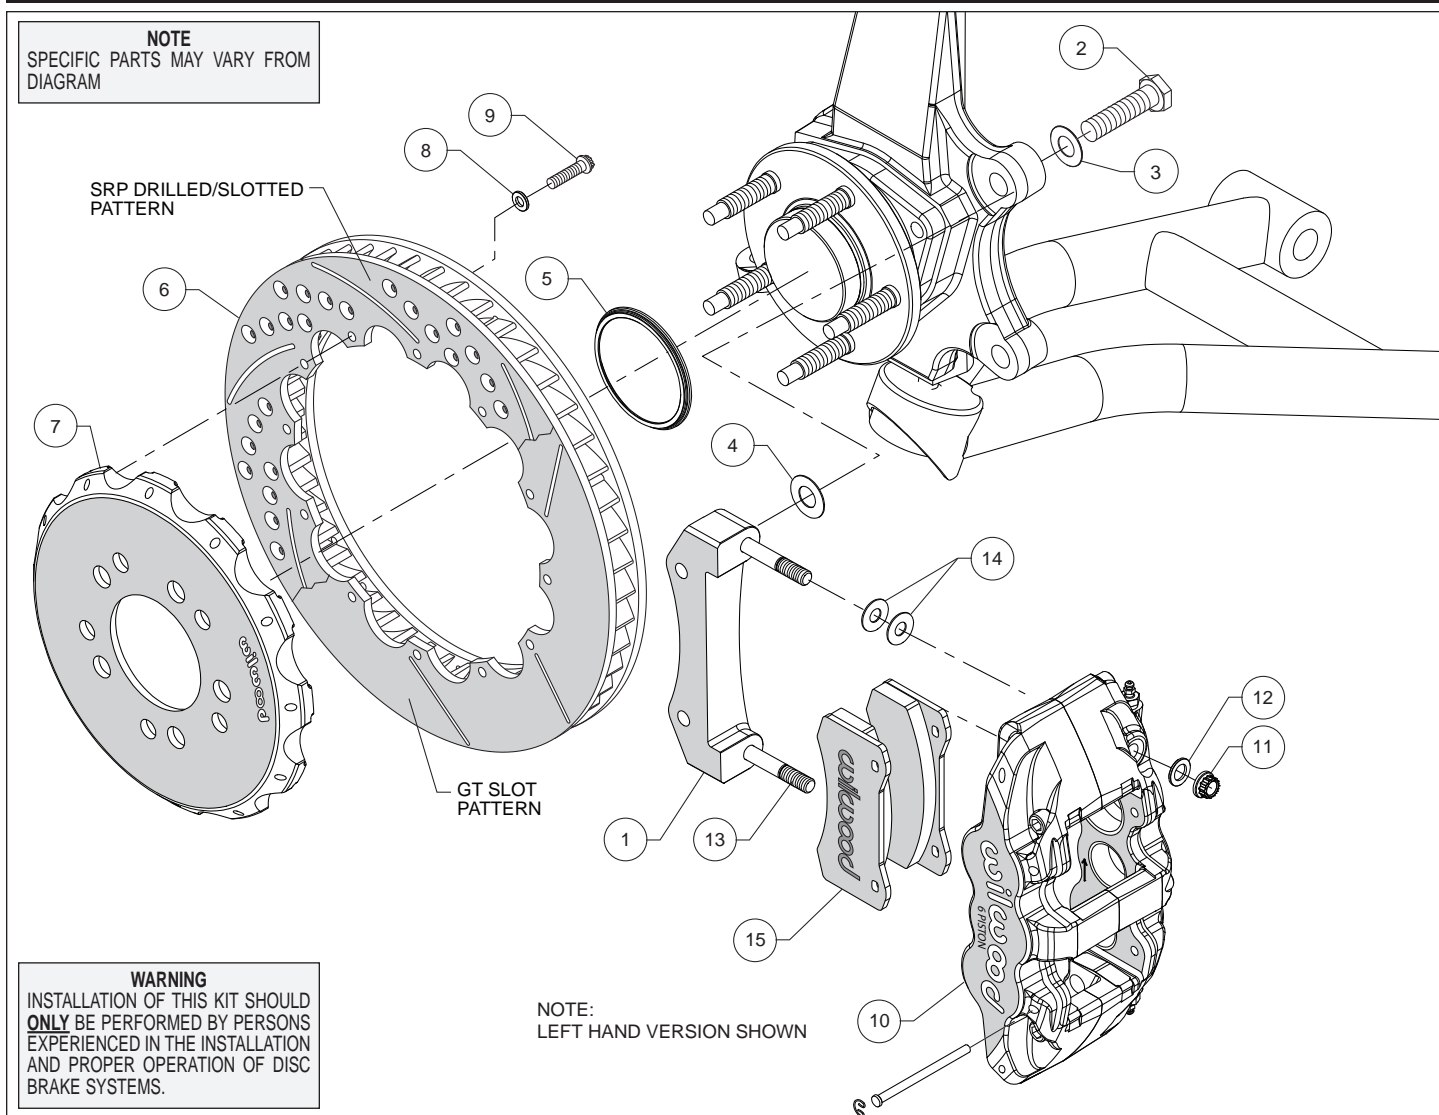
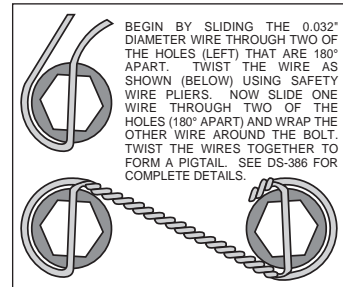

Figure 1. Typical Installation Configuration
Figure 3. Safety Wire Diagram
Assembly Instructions (numbers in parenthesis refer to the parts list and Figure 1 on the preceding pages):
- The caliper mount bracket (1) should initially be installed with clean, dry threads on the mounting bolts. Orient the bracket as shown in Figure 1, and install using bolts (2) and washers (3). Initially place one .029 thick shim (4) on each bolt between the bracket and upright, Figure 1. Temporarily tighten the mounting bolts. **NOTE:** *The bracket must fit squarely against the mount bosses on the upright.* Inspect for interference from casting irregularities, machining ridges, burrs, etc. Later, after the caliper alignment has been checked, the mount bolts will be secured using red *Loctite*[®] 271.
- Orient the rotor (6) and the hat (7) as shown in Figure 1 and Photo 1. Attach rotor to hat using bolts (9) and washers (8). Using an alternating sequence, apply red *Loctite*[®] 271 to the threads, and torque to 155 **in-lbs**. For an added measure of security, the bolts may be safety wired using standard 0.032 inch diameter stainless steel safety wire as shown in Figure 3. Please refer to Wilwood's data sheet DS-386 for complete
- NOTE:** *This kit contains distinct right and left hand calipers that must be mounted in a specific direction, as described below.* Lubricate the caliper mounting studs (13) with lightweight oil. Initially place two .035" thick shims (14) on each stud as shown in Figure 1 and Photo 3. Mount the caliper (10) onto the bracket (1) using lock nuts (11) and washers (12), Figure 1. Ensure that the caliper is mounted so that the largest pistons are at the rotor exit end of the caliper, in relation to the direction of rotor rotation. Temporarily tighten the lock nuts and view the rotor through the top opening of the caliper. The rotor should be centered in the caliper, Photo 4. If not, adjust by adding or subtracting shims (4) between the bracket and the upright. Always use the same amount of shims on each of the two mounting bolts. Once the caliper alignment is correct, remove the bracket mounting bolts (2) one at a time, apply red *Loctite*[®] 271 to the threads, and torque to 77 ft-lb.
- Remove the two pad retaining pins from the caliper (10) by carefully popping out the pin retaining clips and sliding out the pins. Insert the brake pads (15) into the caliper from the bottom, Figure 1 and Photo 5. With the friction material facing the rotor, secure the brake pads in place with the pad retaining pins and clips, Photo 6. Reinstall the caliper onto the caliper mounting bracket and temporarily tighten the lock nuts. Check that the top of the brake pad is flush with the outside diameter of the rotor, Photo 7. If not, adjust by adding or subtracting shims (14) between the caliper and the bracket. After the caliper pad height is set, torque the caliper lock nuts (11) to 47 ft-lb.